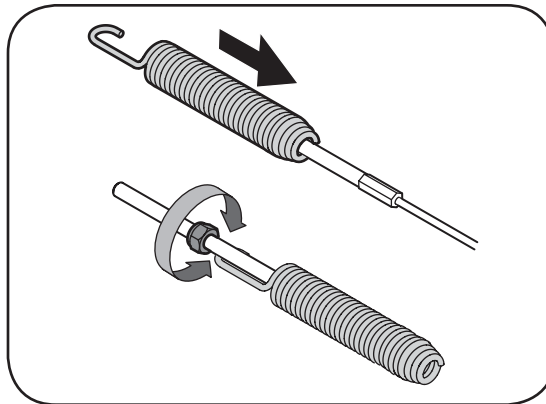

Figure 13
- Loosen the Nylock nut on the drive control cable and unthread the cable one full turn. See Figure 13.
- Push the cable coupler through the end of the spring to expose the lock nut. See Figure 13.